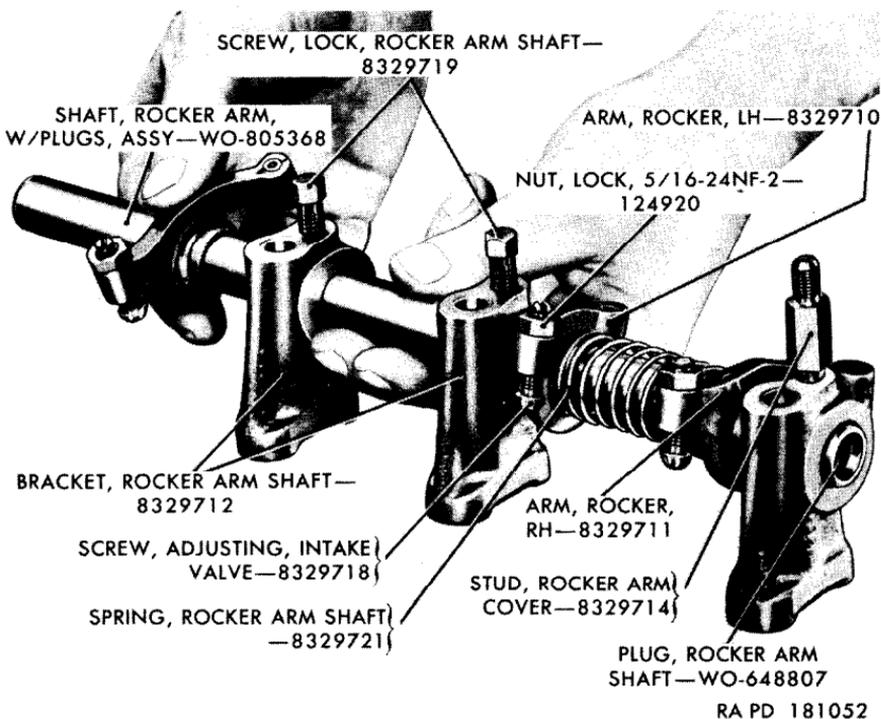

Figure 41. Disassembling rocker arm assembly.
b. Slide the rocker armshaft brackets, the four rocker arm assemblies, and the two rocker arm shaft springs off the rocker arm shaft (fig. 41). Remove the two rocker arm shaft lock screws from the two remaining rocker arm shaft brackets and slide the brackets off the shaft.
c. Insert a screwdriver under the edge of the rocker arm shaft plugs (fig. 41) at each end of the rocker arm shaft, and pry the plugs out of the shaft.
a. Install the two rocker arm shaft plugs (L), one in each end of the rocker arm shaft (M). Slide two rocker arm shaft brackets (F) onto the rocker arm shaft. Aline the tapped holes in the brackets with the drilled holes in the top of the rocker arm shaft and install the rocker arm shaft lock screws (N), making sure the points of the screws enter the drilled holes in the shaft.
b. Screw the intake valve adjusting screws (fig. 41) into the rocker arm and install the $\frac{5}{16}$ -24NF-2 locknuts (Q).
c. Install a rocker arm shaft spring (X) on the shaft against the rocker arm. Install the second rocker arm on the shaft in the same manner as in c above, except that the adjusting screw end of the arm is to be angled toward the center rocker arm bracket (fig. 41). Refer to the *note* in b above.